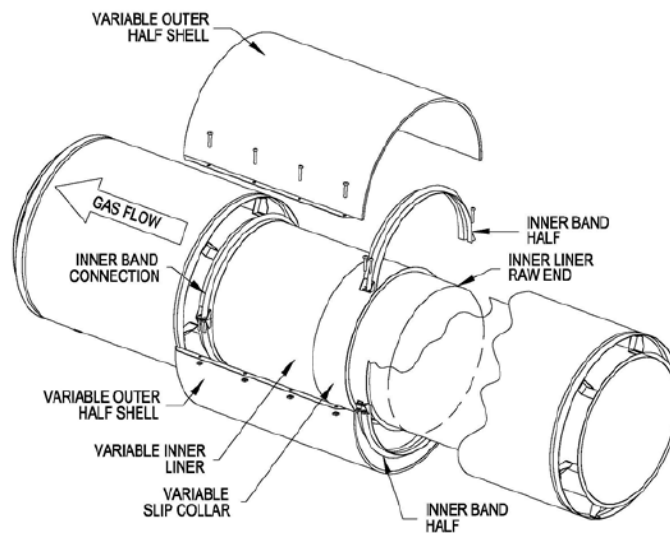

Figure 3. Variable Straight (VS) Length Section and Joint
B. VARIABLE STRAIGHT (VS) LENGTH SECTION JOINT – Reference Figure 3. When required, use a Variable Straight (VS) Length section and joint consisting of the following supplied components:
Install with gas flow directed from the un-flanged to the flanged side of the VS section with slope requirements as required by NFPA 96, or other applicable regulatory requirement. Support the adjoining grease duct sections on either side as specified in Item 3 or in accordance with NFPA 96, the National Building Code of Canada (NBCC), or other regulatory requirement, as applicable, when those requirements are greater. The joint shall be installed in accordance with the general requirements in Item 2, except for the modifications as shown in Figure 3 below. Ensure a min. 3 in. overlap of the un-flanged end of the inner liner into the adjacent grease duct section inner liner.